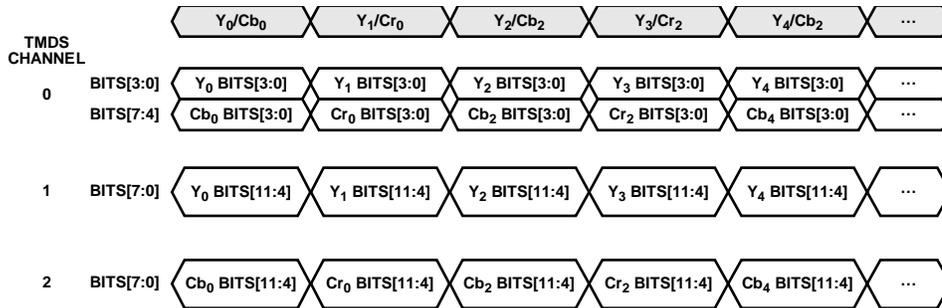
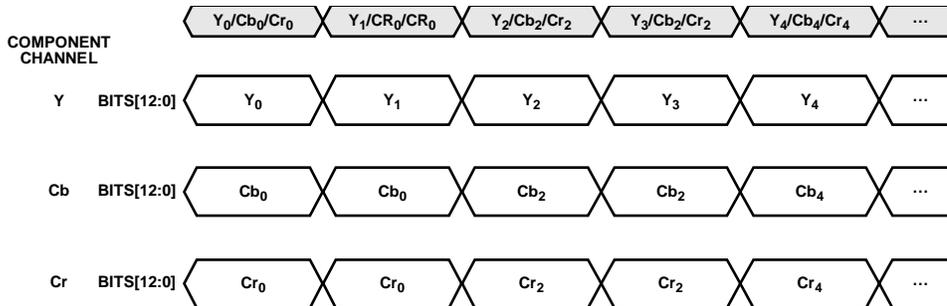

Figure 29. YCbCr, 4:2:2 Video Data Encapsulated in HDMI Stream
Figure 30. Video Stream Output by HDMI Core for YCbCr, 4:2:2 Input and UP\_CONVERSION = 0
- If the HDMI section receives a stream with video encoded in a 4:2:2 format (refer to Figure 29), the HDMI section upconverts the video data into a 4:4:4 format, according to the **UP\_CONVERSION\_MODE** bit, and passes the upconverted video data to the DPP section (refer to Figure 30).